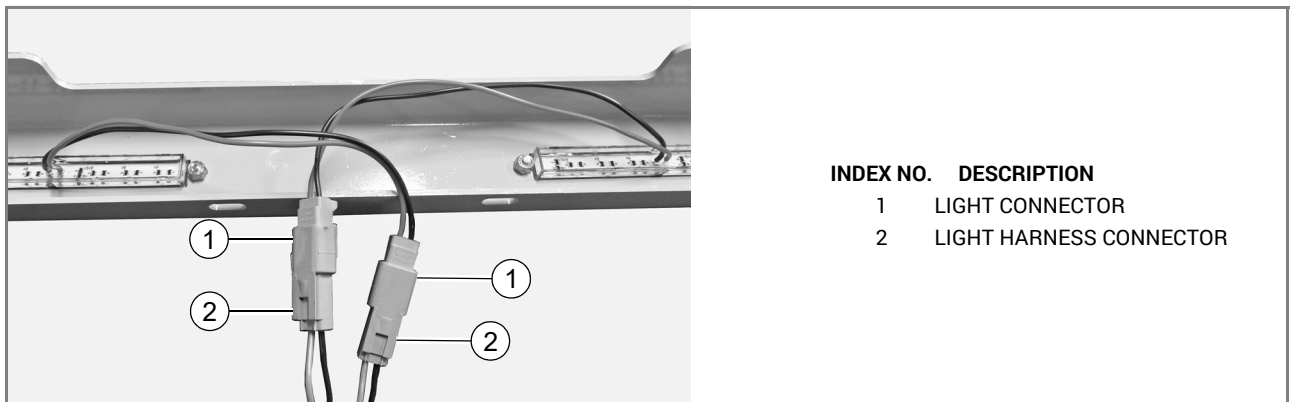

FIG. 3
**4. Connect the light harness to the lights. FIG. 3**